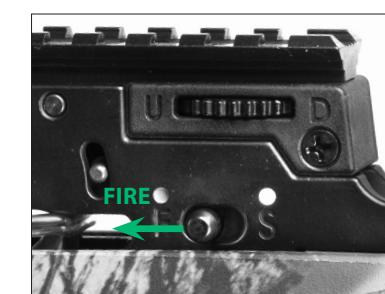

FIGURE 3
7. Slide the safety switch from the **ON SAFE** position to the **FIRE** position. (Fig. 3)